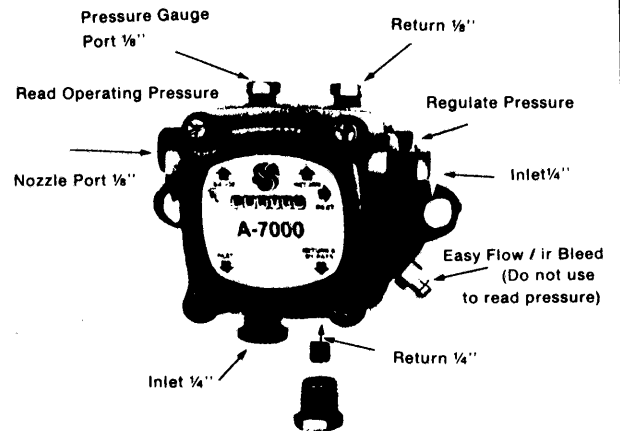

Figure 34.
- i) One-Pipe system: Connect suction line to pump inlet. Arrange burner primary for continuous operation during purging. Start burner and open Easy Flow Air Bleed Valve one turn counterclockwise (see Figure 34). Continue until all air bubbles disappear. Tighten bleed valve securely.